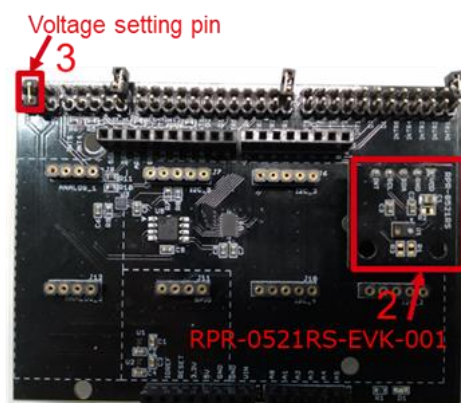

Figure 2. Connection between RPR-0521RS-EVK-001 and the SensorShield
2. Connect RPR-0521RS-EVK-001 to the socket of I2C area on the SensorShield (Figure 2)
3. Set Voltage of the SensorShield to 3.0V (Figure 2)